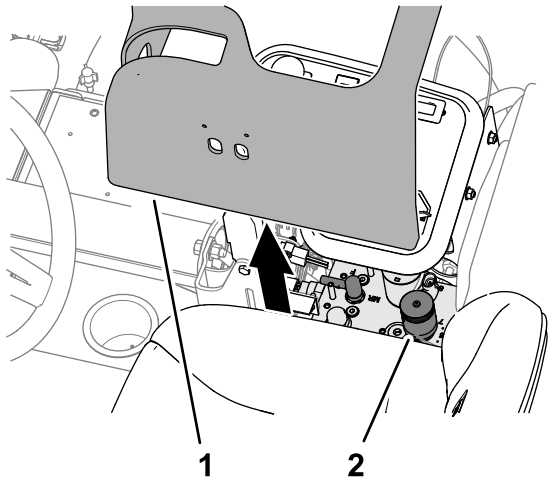

Figure 49
2. Lift the cover from the control arm (Figure 49).